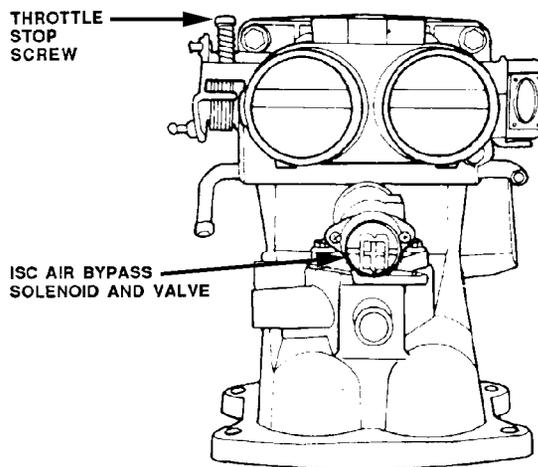

Figure F050-19
4. Turn the throttle stop screw (Figure F050-19), until idle speed is 650 ± 20 rpm.
4. Turn the throttle stop screw (Figure F050-19 on page F172), to set the idle speed to: